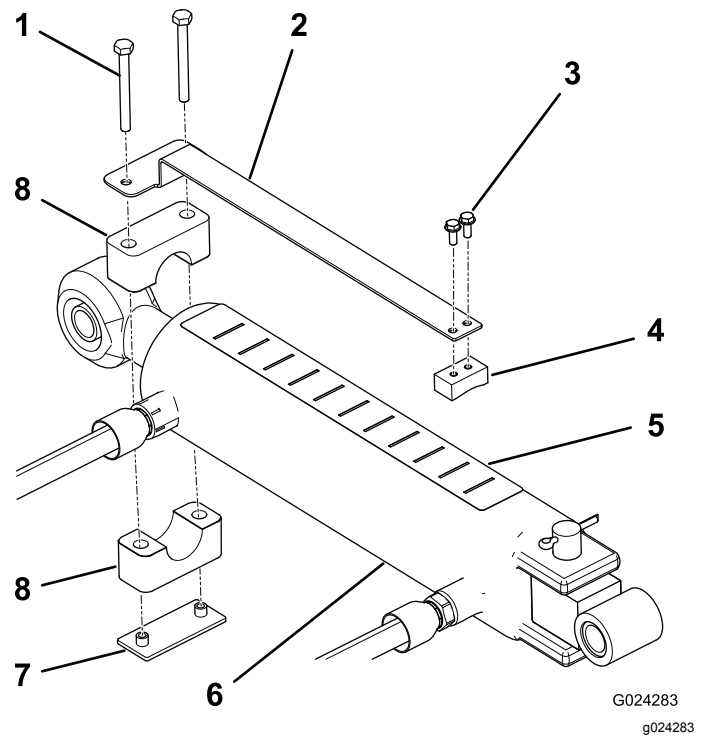

Figure 8
1. Mount the depth gauge to the flat side of the slide block with 2 machine screws (#10 x 1/2 inch), positioning the components as shown in Figure 8.
2. Using the tube clamp, weld plate and 2 screws (1/4 x 2-1/2 inches), loosely mount the depth gauge to the rod end of the top link cylinder (Figure 8). Make sure that the clamps are loose enough to allow them to be rotated to the desired position.
4. Affix the depth decal to the top of the cylinder at a location that is visible from the operating position and does not interfere with hydraulic hoses or other obstructions (Figure 8). The end of the decal with the letter "J" is to be positioned toward the aerator.